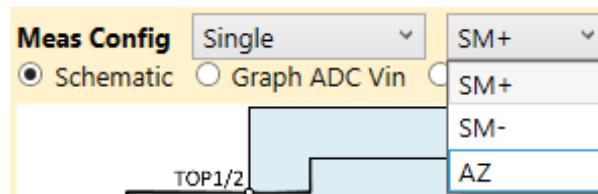

Figure 44. Meas Config: Single
- Single: single measurement (Figure 44)